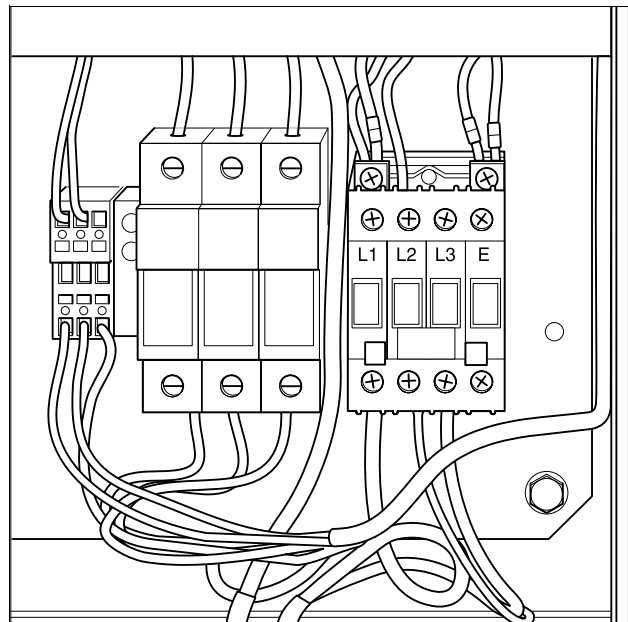

Fig. 8 - Starter
5.5 Electrical Installation Fig. 8